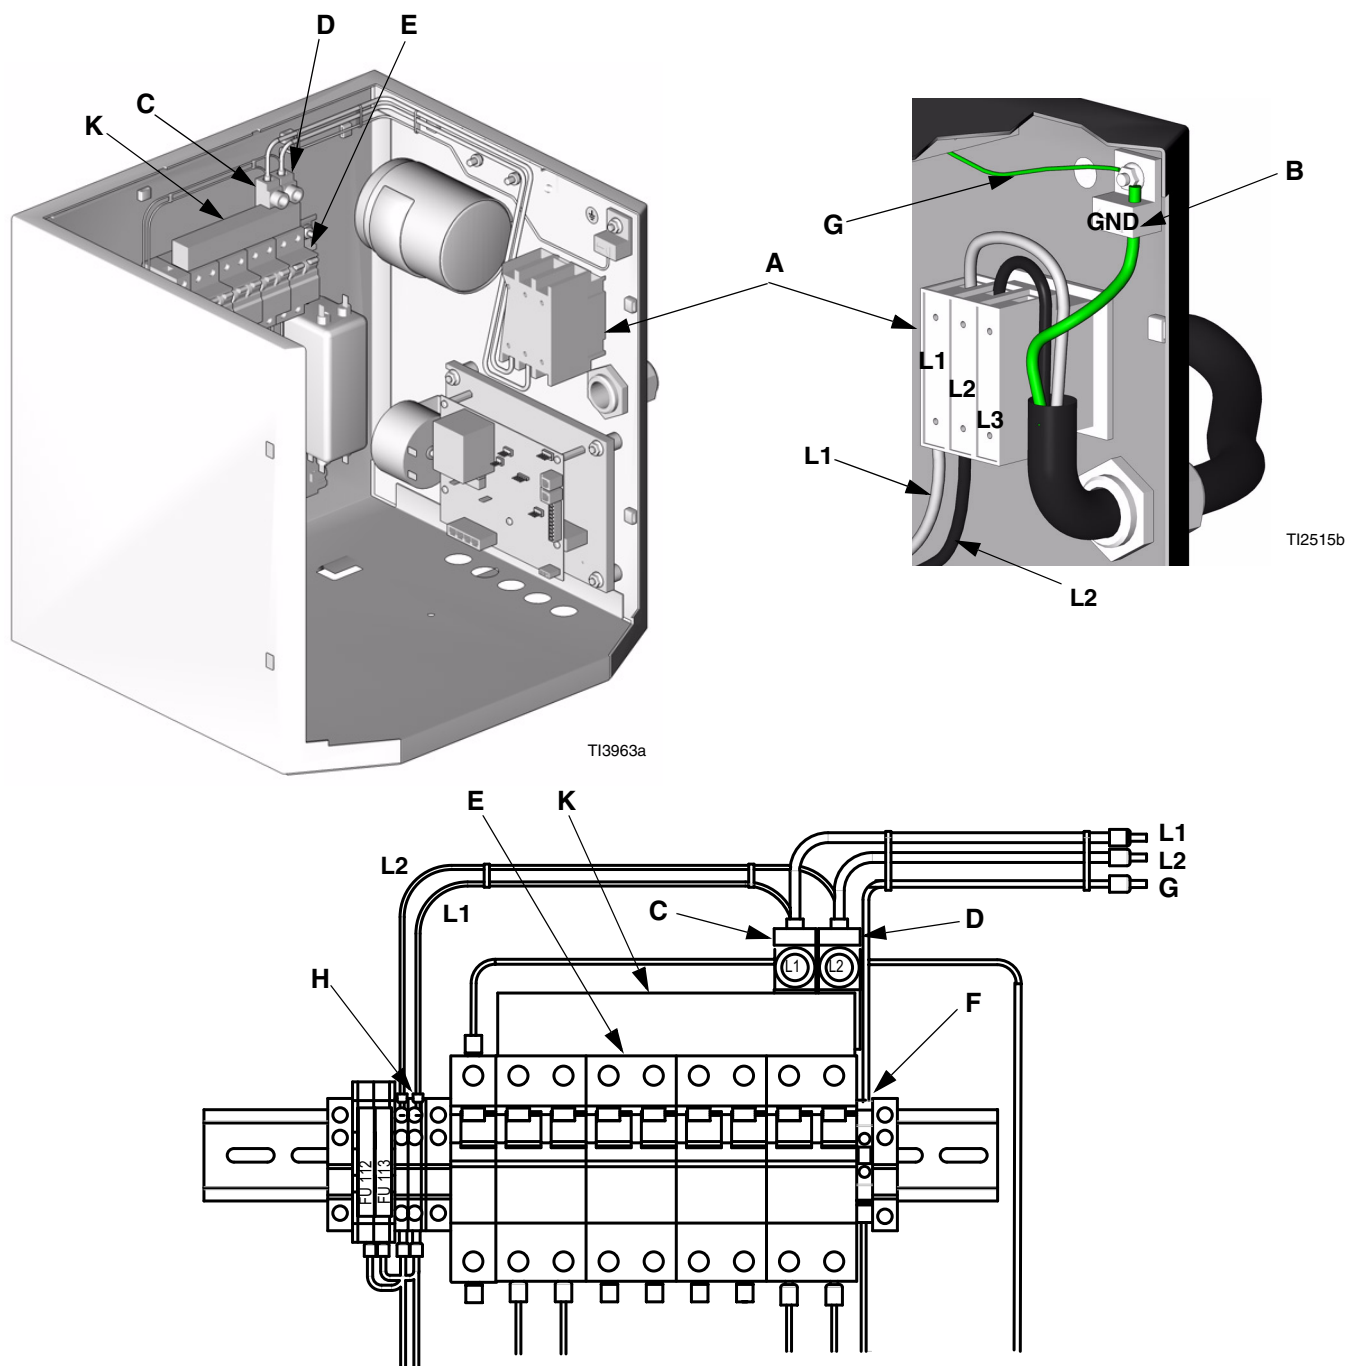

FIG. 2. Install 1 Phase Wire Harness and Hardware
1. See FIG. 2 on page 4. Plug 1 phase buss bar (K) into circuit breaker module (E).
2. Plug connectors (C, D) retained from disassembly into buss bar (K) as shown.
3. Using a flat blade screw driver, connect wire harness (L1, L2) to connectors (C, D). Connect wire harness ground wire (G) to ground terminal (F) at right of circuit breaker module (E).
4. Connect jumper wires (L1, L2) to terminal block (H) at left of circuit breaker module (E).
5. Using 5/32 or 4 mm hex allen wrench, connect wire harness (L1, L2) to disconnect switch (A).
6. Route wire harness ground wire (G) over top of disconnect switch (A) and connect to ground terminal (B).